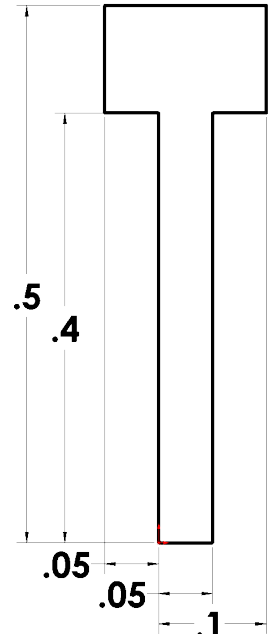

Fig. 3
- Step 5. Click **Smart Dimension**  (S) on the Sketch toolbar.
- Step 6. Dimension as shown in **Fig. 3**. **Start dimensioning from the smallest dimension and work out to the largest**, dimension .05's, then .01 and .5 last.